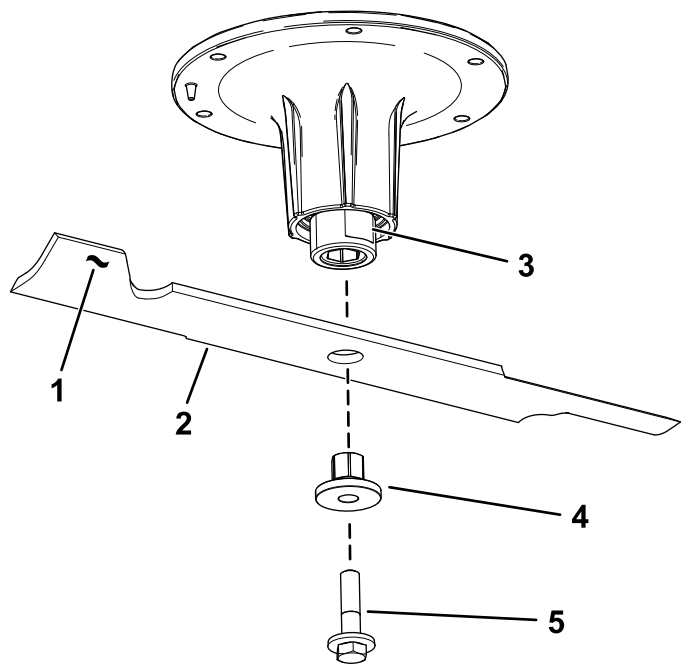

Figure 109
2. Remove the blade bolt, bushing, and blade from the spindle shaft (Figure 109).